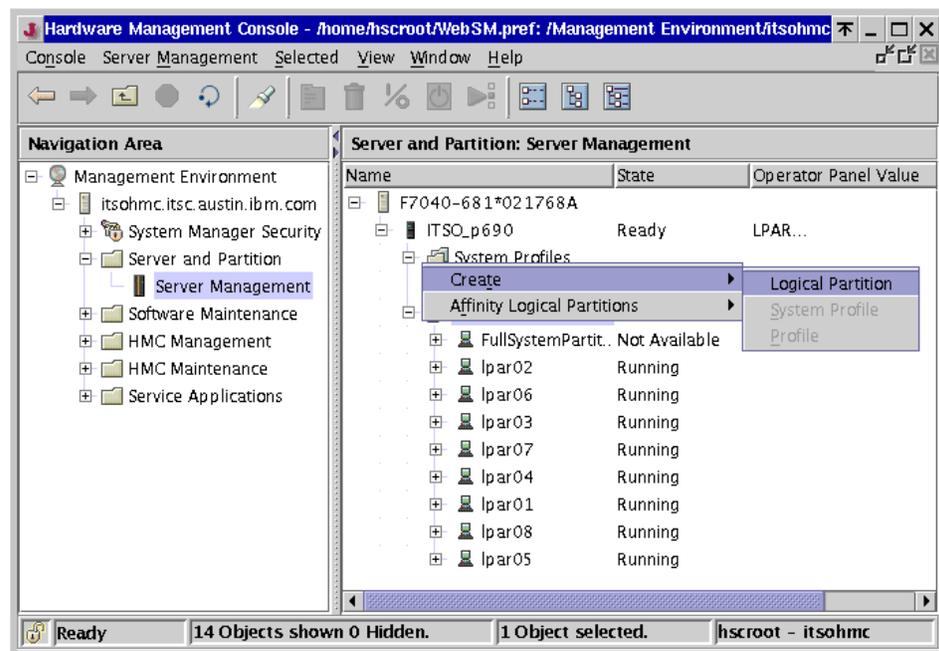

Figure 6-1 Create a logical partition
1. To create a partition, select the managed system. From the menu bar, select **Selected** → **Create**. Or select the managed system, right-click, and select **Create** → **Logical Partition**, as shown in Figure 6-1 on page 166.